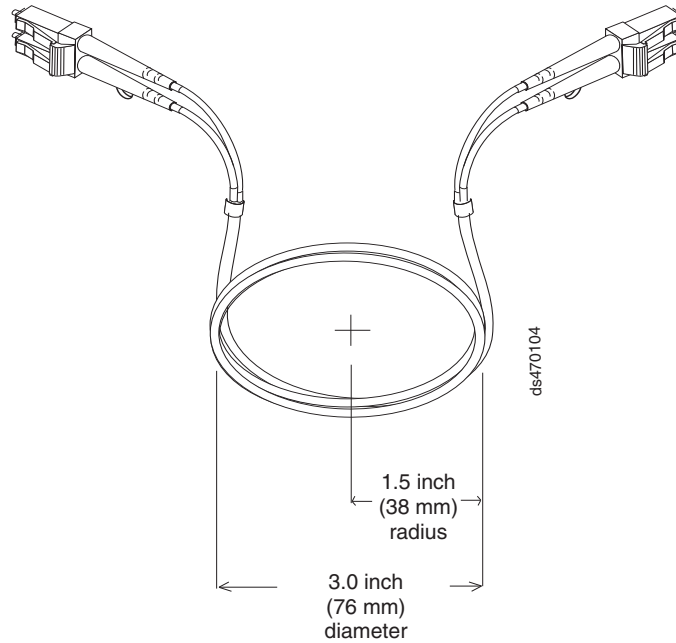

Figure 19. Recommended bending and looping specifications for fibre-optic cables
- When storing excess or unused fibre-optic cables, do not bend the cables to a diameter of less than 76 mm (3 in.), or a radius less than 38 mm (1.5 in.) or wrap them around themselves. See Figure 19 on page 35.